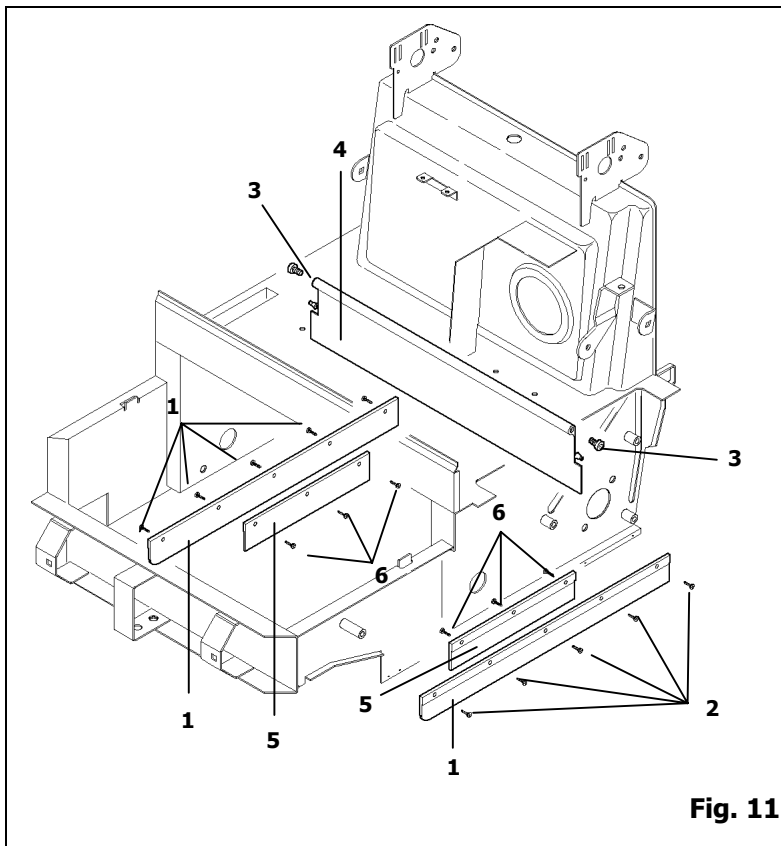

Fig. 11
To replace the side flaps **pos.1 Fig.11** , remove the rear wheels and the relevant side guards. Loosen the screws that secure the flaps to frame **pos.2 Fig.11** and replace the old flaps with new ones.
To replace the inner side flaps **pos.5 Fig.11** , lift the front part of the machine and loosen screws **pos.6 Fig.11** that secure the flaps to the frame. Replace the old flaps with new ones.
- Loosen the two **flap fixing pins pos.3 Fig.11**, located on the sides of the frame.
- Grasp flap **pos.4 Fig.11** and pull it outwards.